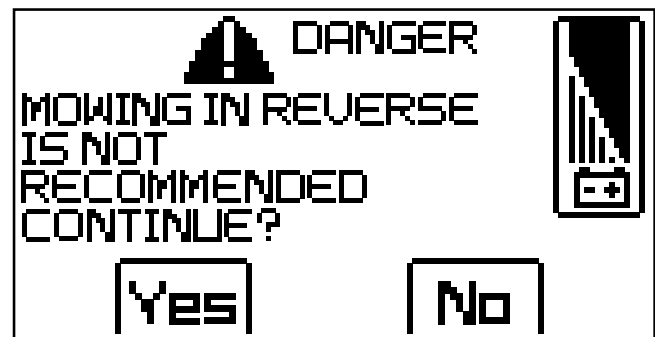

Figure 5-11
3. Once the RCM button  is pressed a warning statement will display on the LCD screen asking for confirmation of activating the RCM. To continue in RCM press the "BLADE BOOST" button below the "Yes" icon, to cancel RCM press the "SYSTEM SETTINGS" button below the "No" icon. See Figure 5-11.